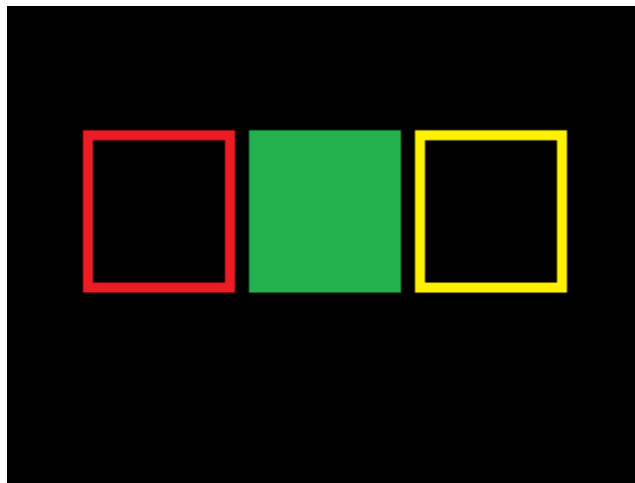

Figure 1: LCD Button Example
1. Three buttons must be drawn on the LCD. One red, one green, and one yellow. The buttons will be blank colored outlines initially (like the red and yellow button in figure 1).
2. When a button is touched the button will be filled (like the green button in figure 1). When that button is touched again the button should be return to a blank outline.